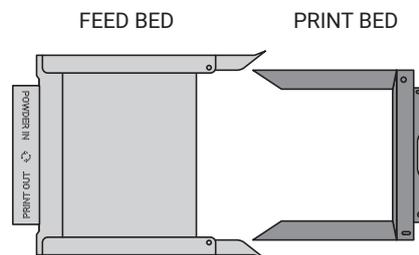

Fig. 3.2 The proper arrangement of the IO BOX, allowing the user to remove the finished printout.
5. Place the folded IO BOX inside the print chamber. Make sure its elements are arranged like in the picture (fig. 3.2.)